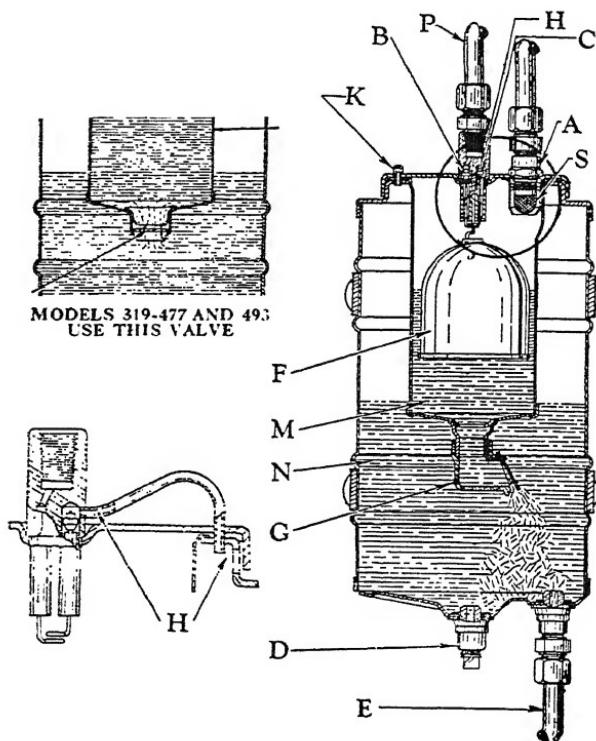

Fig. 4. Stewart-Warner No. 309 Leverless Vacuum Tank
**Stewart-Warner Leverless-Type Vacuum Tank.** The leverless type vacuum tank is constructed with two separate chambers —an inner or vacuum chamber *M* and an outer or reverse chamber *N*, as shown in Fig. 4.